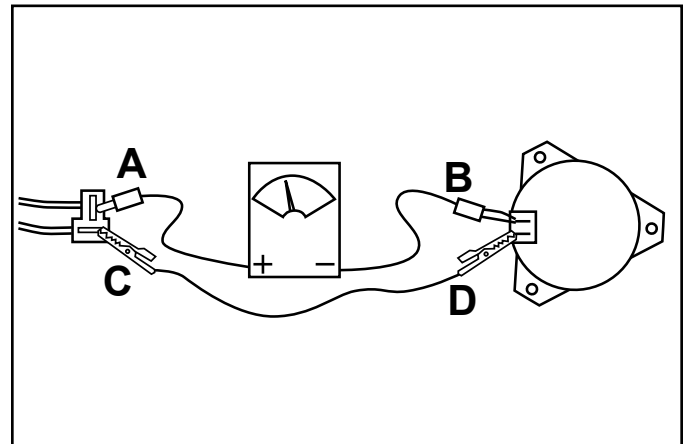

Fig. 171
4. Connect the positive meter lead to the chassis harness terminal A (brown wire) (Fig. 171).
5. Connect the negative meter lead to the corresponding wire terminal B (Fig. 171).
6. Connect a short jumper lead from terminal C to terminal D (Fig. 171).